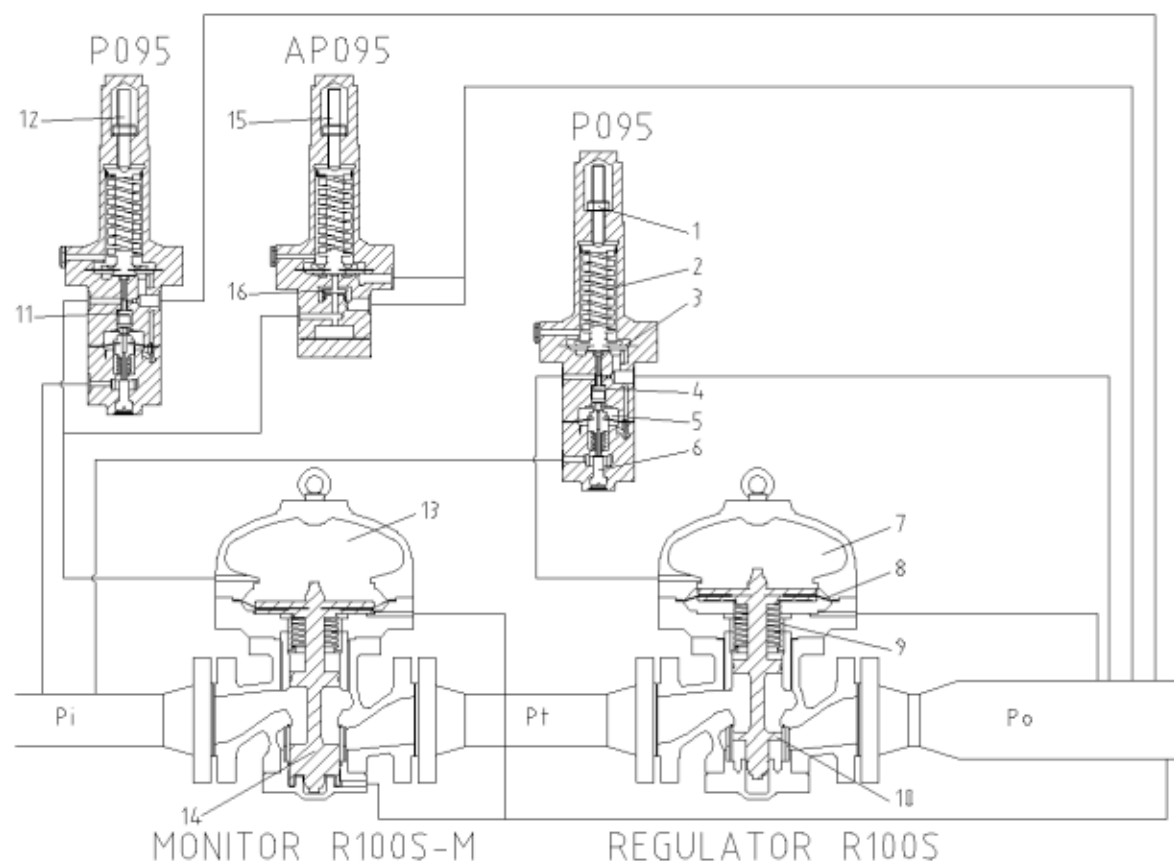

Figure 5 Schematic diagram wide-open monitor regulating system with:
**Wide-open monitor** See figure 5